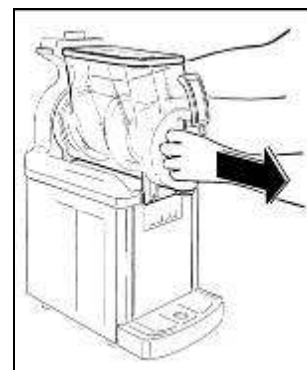

Fig. 17
- Pull the tank outward, as shown, to completely remove it from its seat (fig.17).